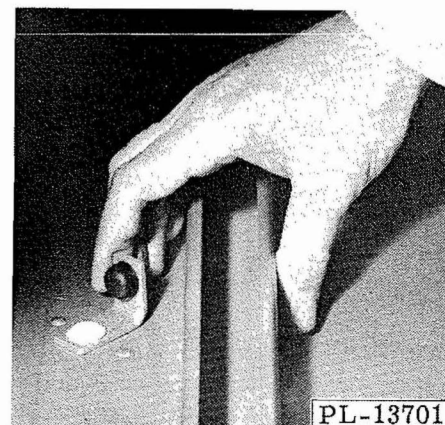

Fig. 6
- B.8 The carriage may be assembled from either side. Turn the "L" shaped carriage stop (Fig. 6) so that the rubber bumper is toward rear of machine. Align the center bearings of the carriage with the carriage guide (7, Fig. 4). Roll carriage into place. Turn carriage stop (Fig. 6) into stopping position.
- G.1 Turn (at either end) the "L" shaped carriage stop (Fig. 6) and roll off stainless steel carriage.